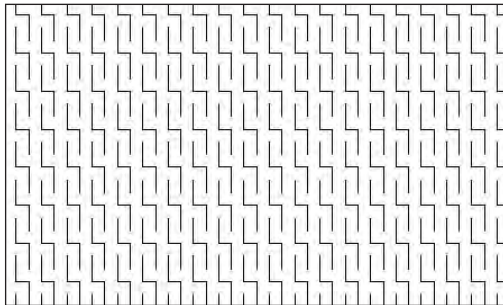

Figure 31-11: The lightning hatch pattern
10. Choose Select Objects and pick the rectangle in your drawing. Press Enter. Click OK. AutoCAD fills the rectangle with the lightning hatch, as shown in Figure 31-11.